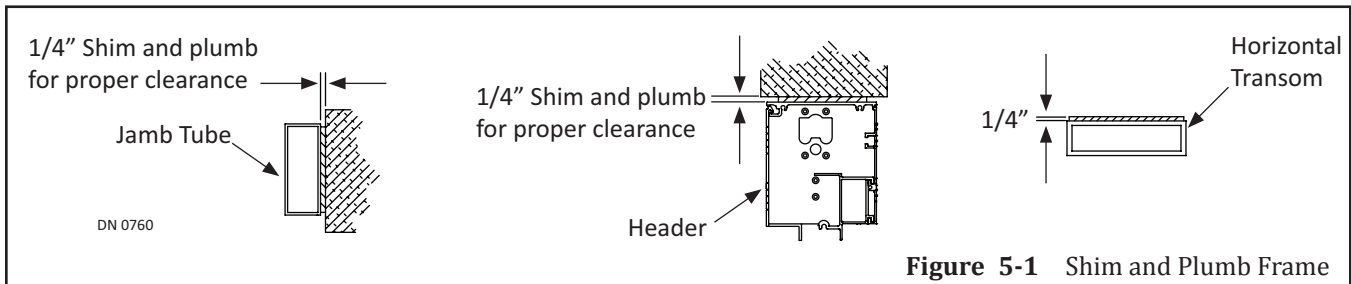

Figure 5-1 Shim and Plumb Frame
2. Shim and Plumb Jamb tubes in both planes to ensure the rough opening allows a 1/4 inch (6mm) clearance. Please see Figure 5-1.